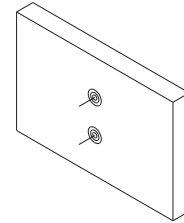

Fig. 2
- 3 Drill two 5/16" (8mm) pilot holes (Fig 2).